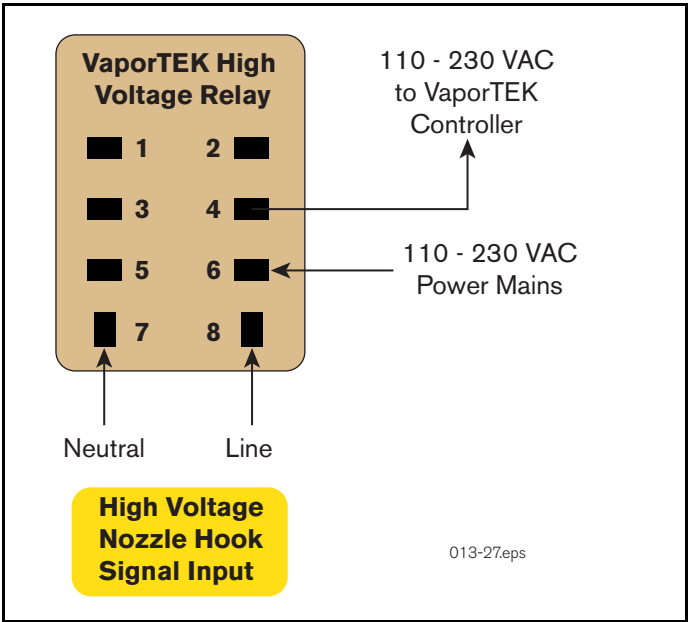

Figure 18. VaporTEK High Voltage Relay Diagram
- c. A High Voltage source (110-230VAC) is connected to the M1 on the VaporTEK Controller through all the relay circuits on Side A (See Figure 18 for high voltage relay wiring diagrams).